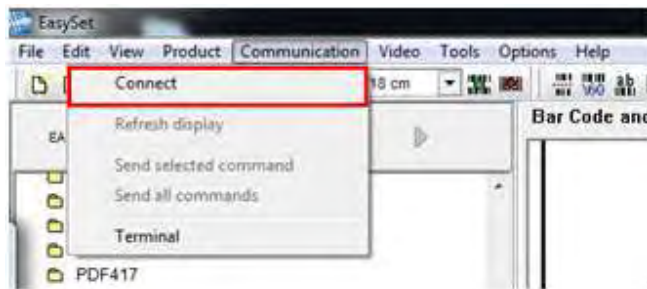

Figure 3-31: EasySet – Communication
Step 3: Click **Communication** on the tool bar and select **Connect** from the drop-down menu (Figure 3-31).